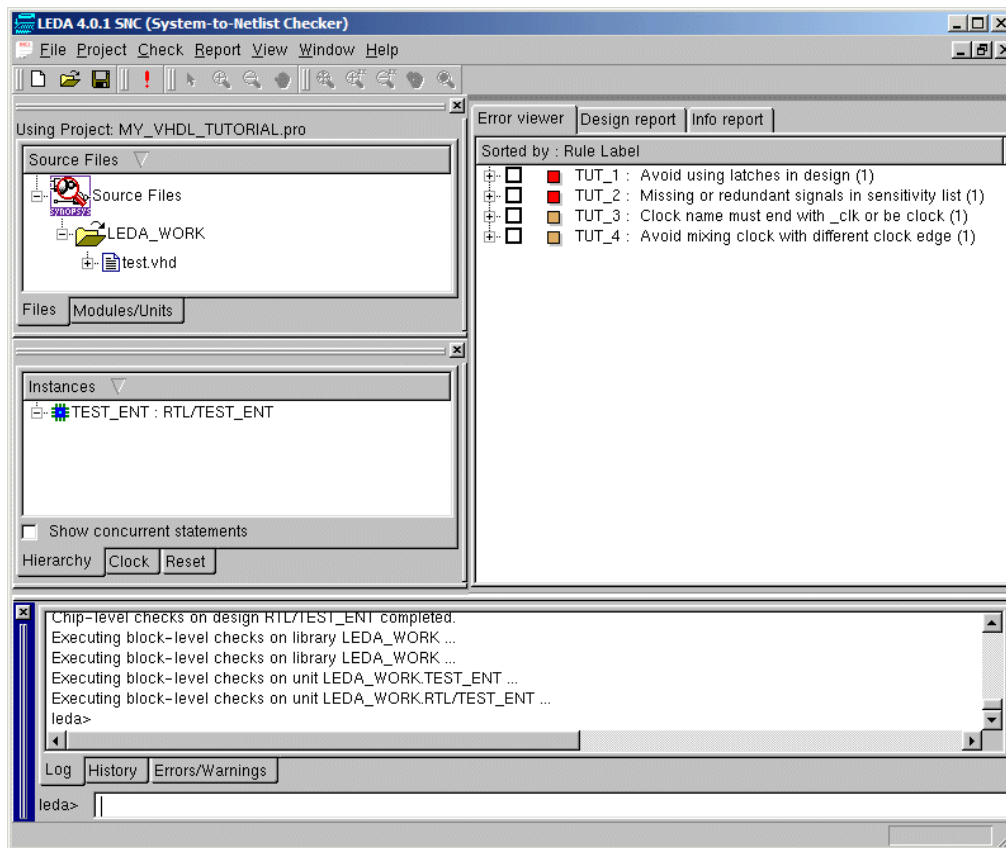

Figure 4: Checker Results for Custom Rules
5. From the Specifier main menu, choose **Check > Execute**. This time we see our same test file (test.vhd) listed in the Files tab on the left, but in the Error Viewer we see just four messages. They are the messages generated because the test file we wrote violates all four rules that we specified in MY_TUTOR custom policy (see Figure 4).